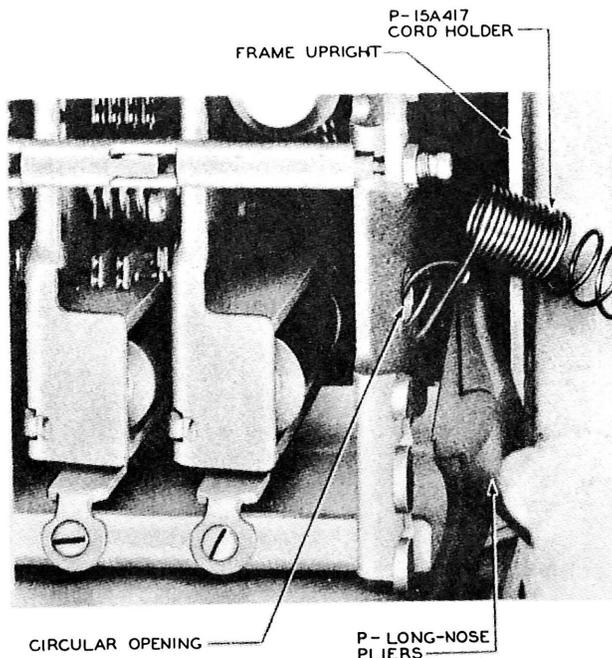
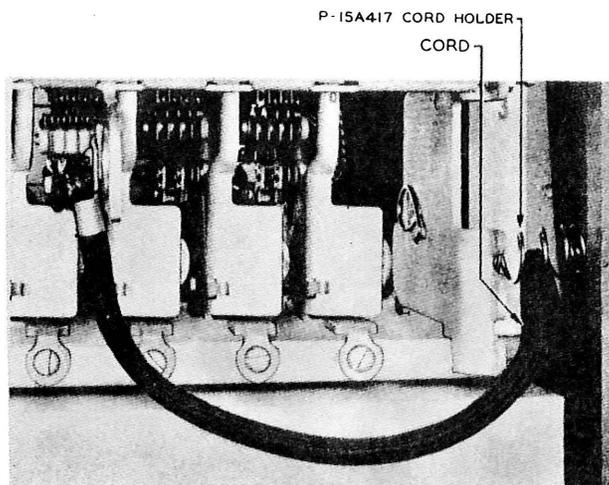

Fig. 1 - Illustrating Mounting of P-15A417 Cord Holder
Fig. 2 - Illustrating Mounting of Service Observing Cord Using P-15A417 Cord Holder
1.02 The P-15A417 cord holder is made of corrosion-resistant spring steel wire. The wire is formed into a coil with five widely spaced turns at one end and a number of closely spaced turns and an offset at the other end. The widely spaced turns are used to hold up to four service observing cords. The closely spaced turns are used to prevent interference between the cords and the selecting off-normal springs. The cord holder is secured to the switch frame by the offset part of the holder as shown in Fig. 1.
3.01 Mounting Cord Holder: Mount the cord holder in the circular opening on either side of the crossbar switch as follows. Firmly grasp the short straight portion of the cord holder with the P-long-nose pliers. Insert the holder between the switch and the frame upright as shown in Fig. 1. With the cord holder at an angle of approximately 45 degrees to the circular opening in the side of the crossbar switch, insert the first loop into the opening. Press downward and toward the switch until the entire loop including the bend adjacent to the pliers is inside the opening. Remove the pliers. Rotate the holder until the portion outside the hole is in the position nearest the front of the switch. In the final position, the spring will appear as shown in Fig. 2.
3.03 Mounting Service Observing Cords: With the cord holders mounted as required on either side of the crossbar switch as covered in 3.01, place the cords between the spring turns and dress them in the manner shown in Fig. 2 to avoid interference with the selecting off-normal springs and other parts of the switch.